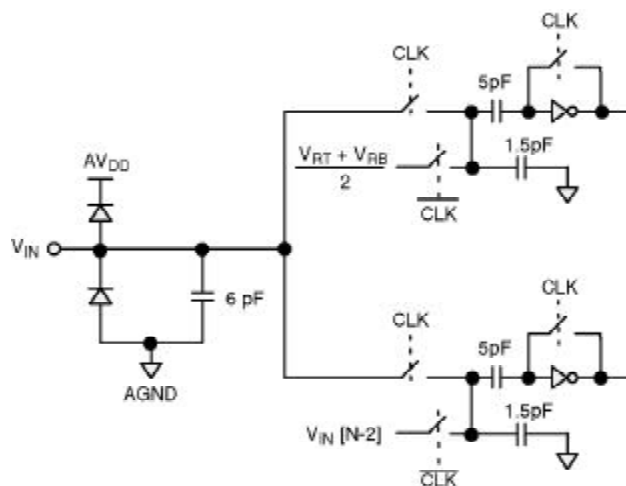

Figure 5. Equivalent Input Circuit
5. See V_{IN} input equivalent circuit (Figure 5). Switched capacitor analog input requires driver with low output resistance.
The reference can be biased internally by shorting V_{RT} to V_{RTS} and V_{RB} to V_{RBS} . This will generate $0.6V$ at V_{RB} and $2.6V$ at V_{RT} (see Figure 5).